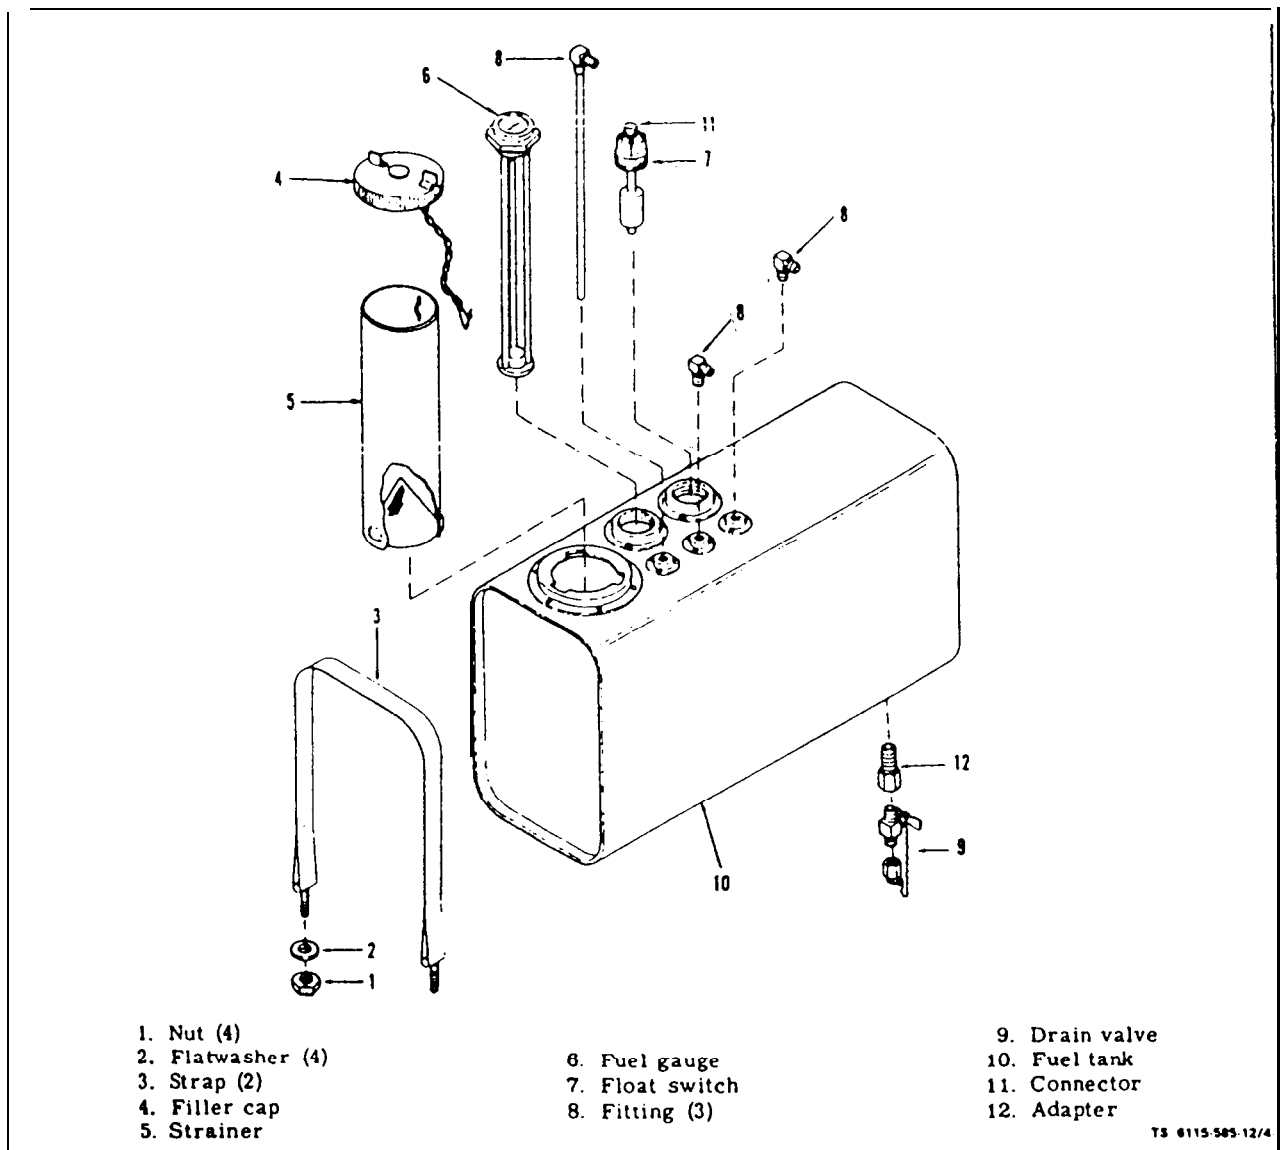

Figure 4-7. Fuel Tank Assembly
(2) Tank. If tank shows signs of physical damage or leaks refer to higher level of maintenance.
f. Reassembly (see figure 4-7).
(1) Fuel Drain Valve. Engage threads of fuel drain valve assembly (8) 1/2 turn into fuel tank adapter (11). Coat threads with sealing compound MIL-S-22473. Tighten valve assembly into adapter (11).
(2) Fittings. Engage threads of fitting (7) 1/2 turn into fuel tank (9). Coat threads with sealing compound MIL-S-22473. Tighten fittings into tank. Fittings should face Generator Set for proper connection of fuel lines. Attach fuel lines to fittings.
(3) Float Switch. Engage threads of float switch (6) 1/2 turn into tank (9). Coat threads with sealing compound MIL-S-22473. Tighten float switch (6) into tank using tools only on square portion of switch. Attach electrical lead to connector (10) on top of float switch and tighten.